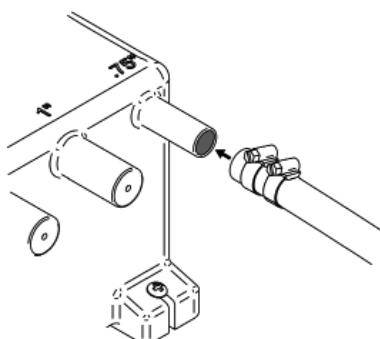

Figure 8 Securing Hose to Tank Port
| Fig. 8 | Securing Hose to Tank Port |
Step 5: Secure all hosing onto the selected ports using appropriate hose clamps, as shown in Figure 8. Check no leaks occur. Do not overtighten hose clamps.